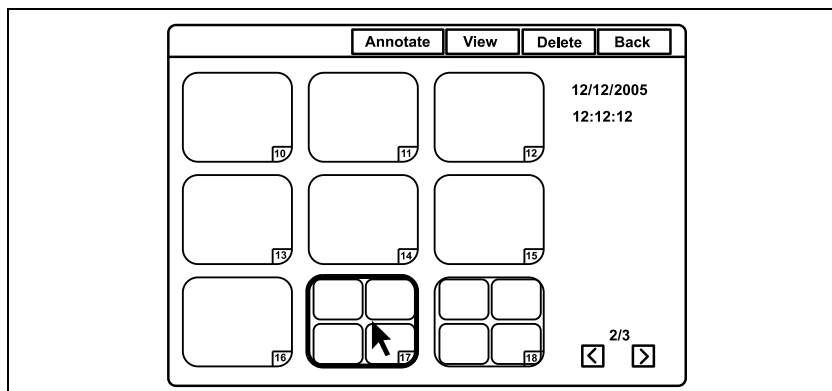

Figure 5.73
2. Click an annotation icon to be played back. The selected icon is edged with a thick frame (see Figure 5.73).